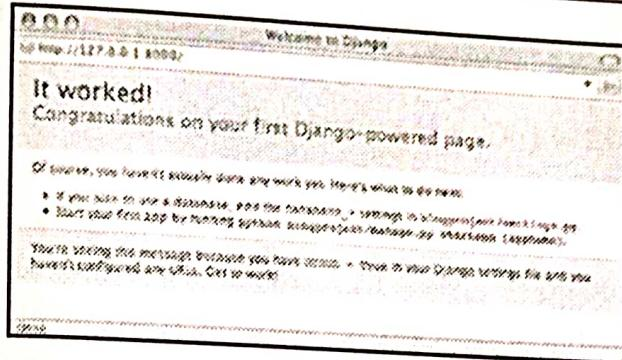

Fig. 7.2.2 : Django initial screen
- Open that link (<http://127.0.0.1:8000/>) in your browser and you should see Django's "It Worked!" screen, as shown in Fig. 7.2.2